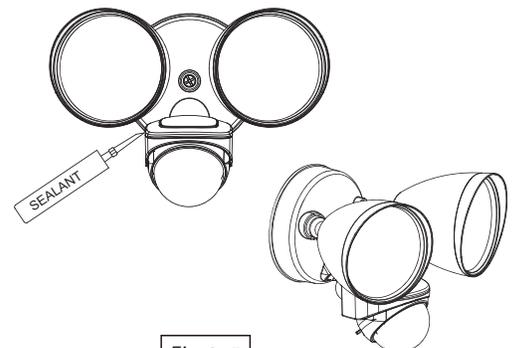

Fig 2-5
5. After mounting the fixture, apply a silicone sealant compound (not included) around the mounting surface (Fig 2-5).